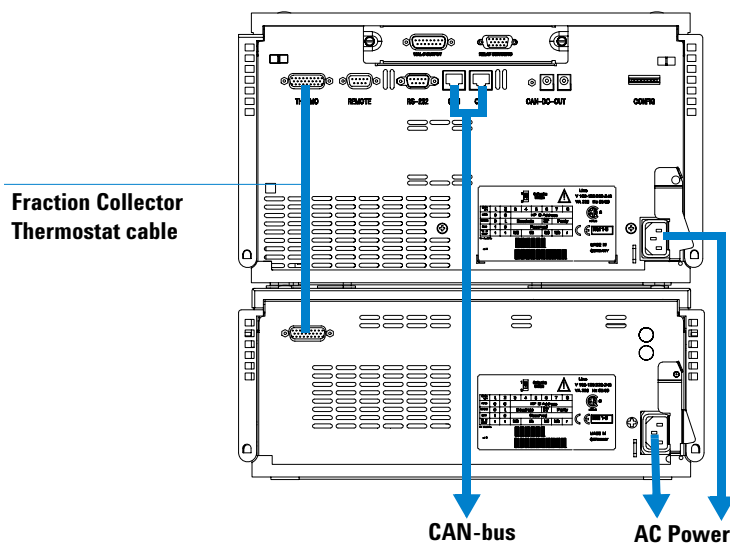

Figure 10 Connections at the Rear of the Thermostatted Fraction Collector
- 14 Connect the cable between the fraction collector and the thermostat, see Figure 10 on page 33.